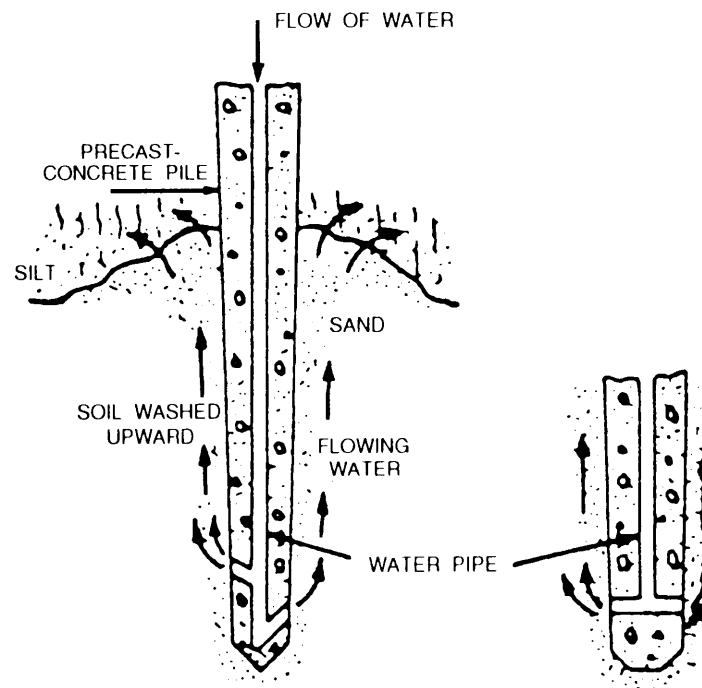

Figure 12-76.—Water jetting precast concrete pile.
- Precast concrete piles are steel reinforced sections that are square or octagonal in shape except near the tip. They vary in length up to 50 or 60 feet. Because of their great weight, greater lengths are generally not feasible. They require time for setting and curing and storage space. Precast concrete piles are frequently driven with the aid of water jetting (fig. 12-76). Water is forced through and out the pile tip through jetting pipes constructed into the piles while the pile is driven.